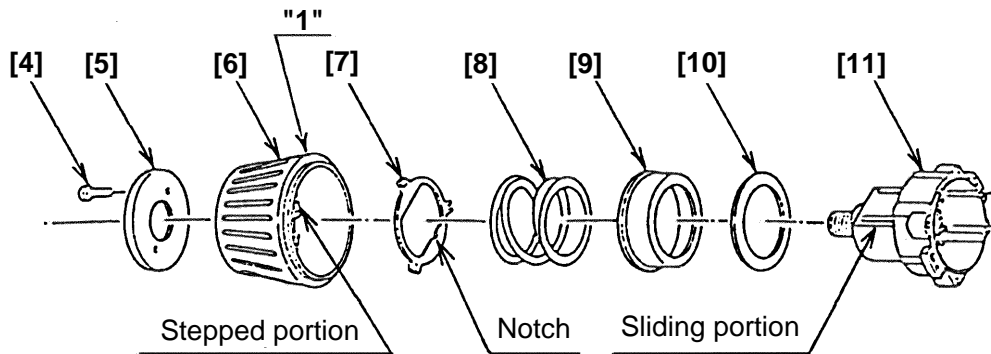
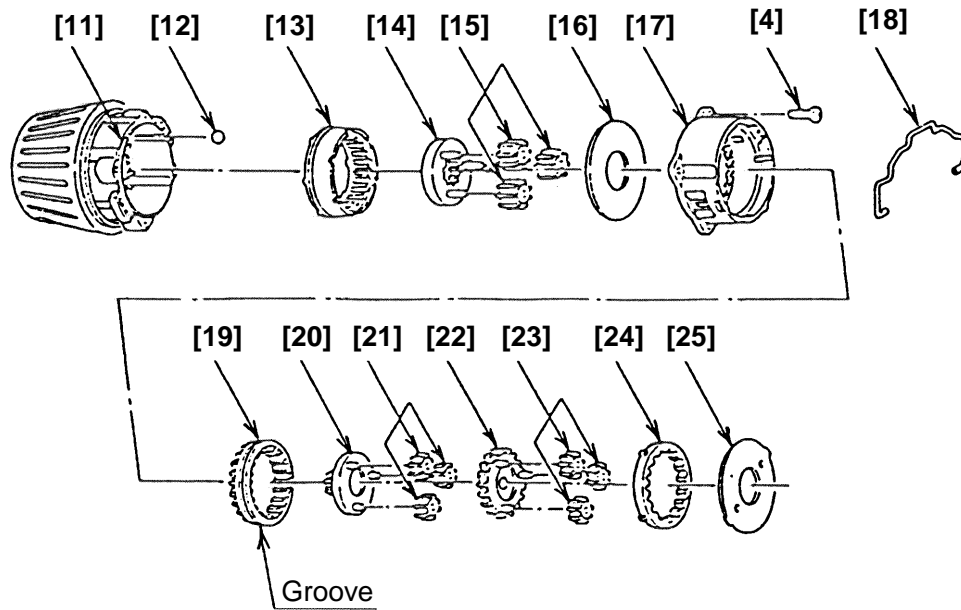

Fig. 7
Fig. 9
- (ii) When installing the Cap [6] to the assembly reassembled in step (i), be careful of the position of the numbers on the Cap [6] and the notch of the Clutch Plate [7]. The indication "1" of the Cap [6] must be on the opposite side of the notch of the Clutch Plate [7]. (See Fig.7.)
(3) Reassembly of the gear unit
- (b) Install the parts series from the Steel Ball [12] to the Washer (B) [25] into the assembly reassembled in step (2). (See Fig.9.)